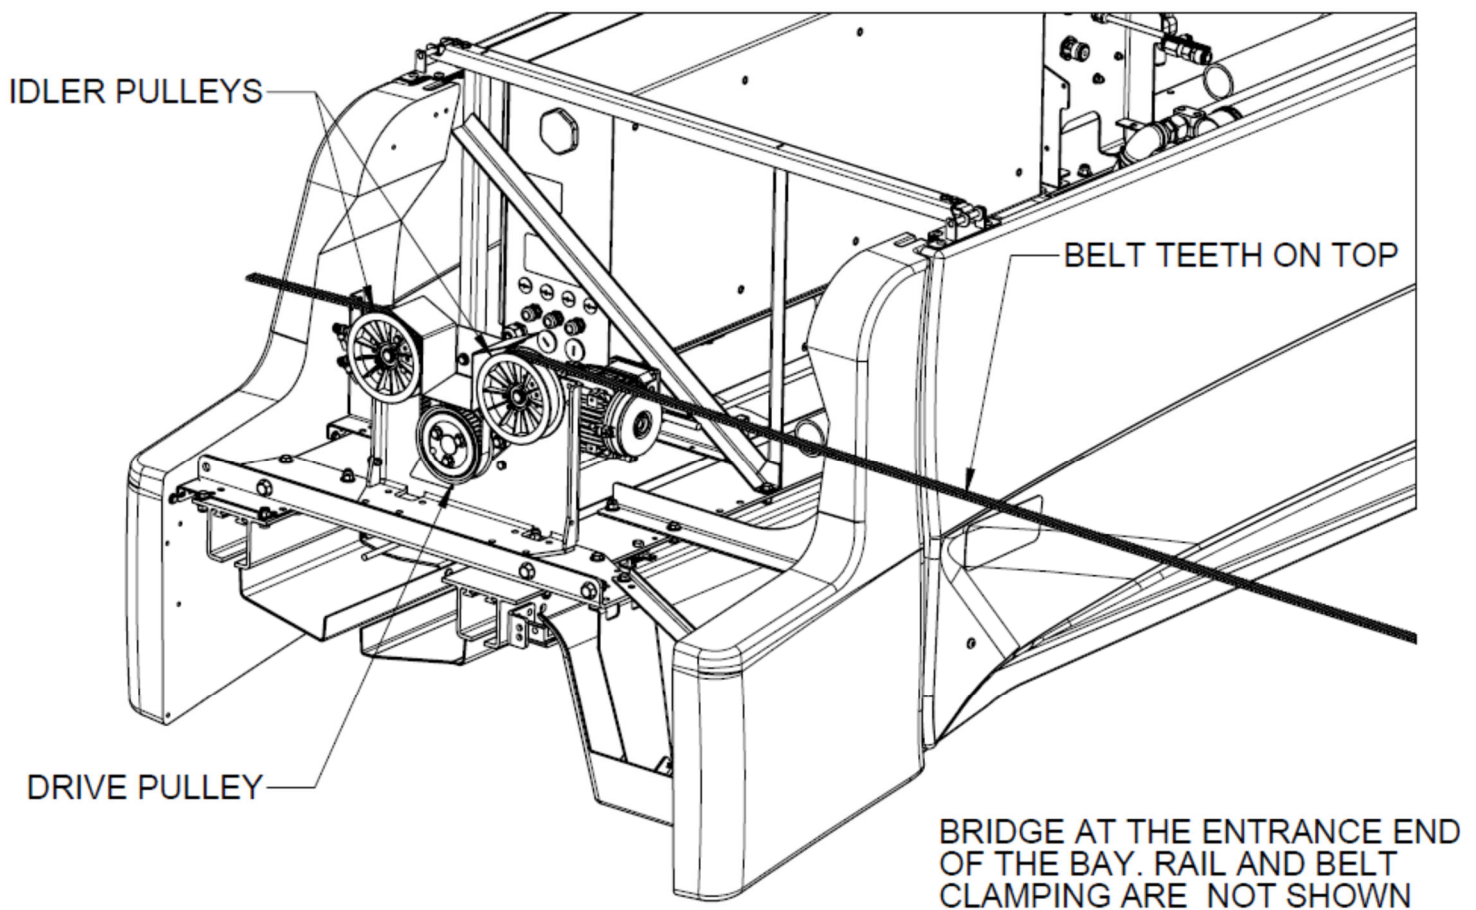
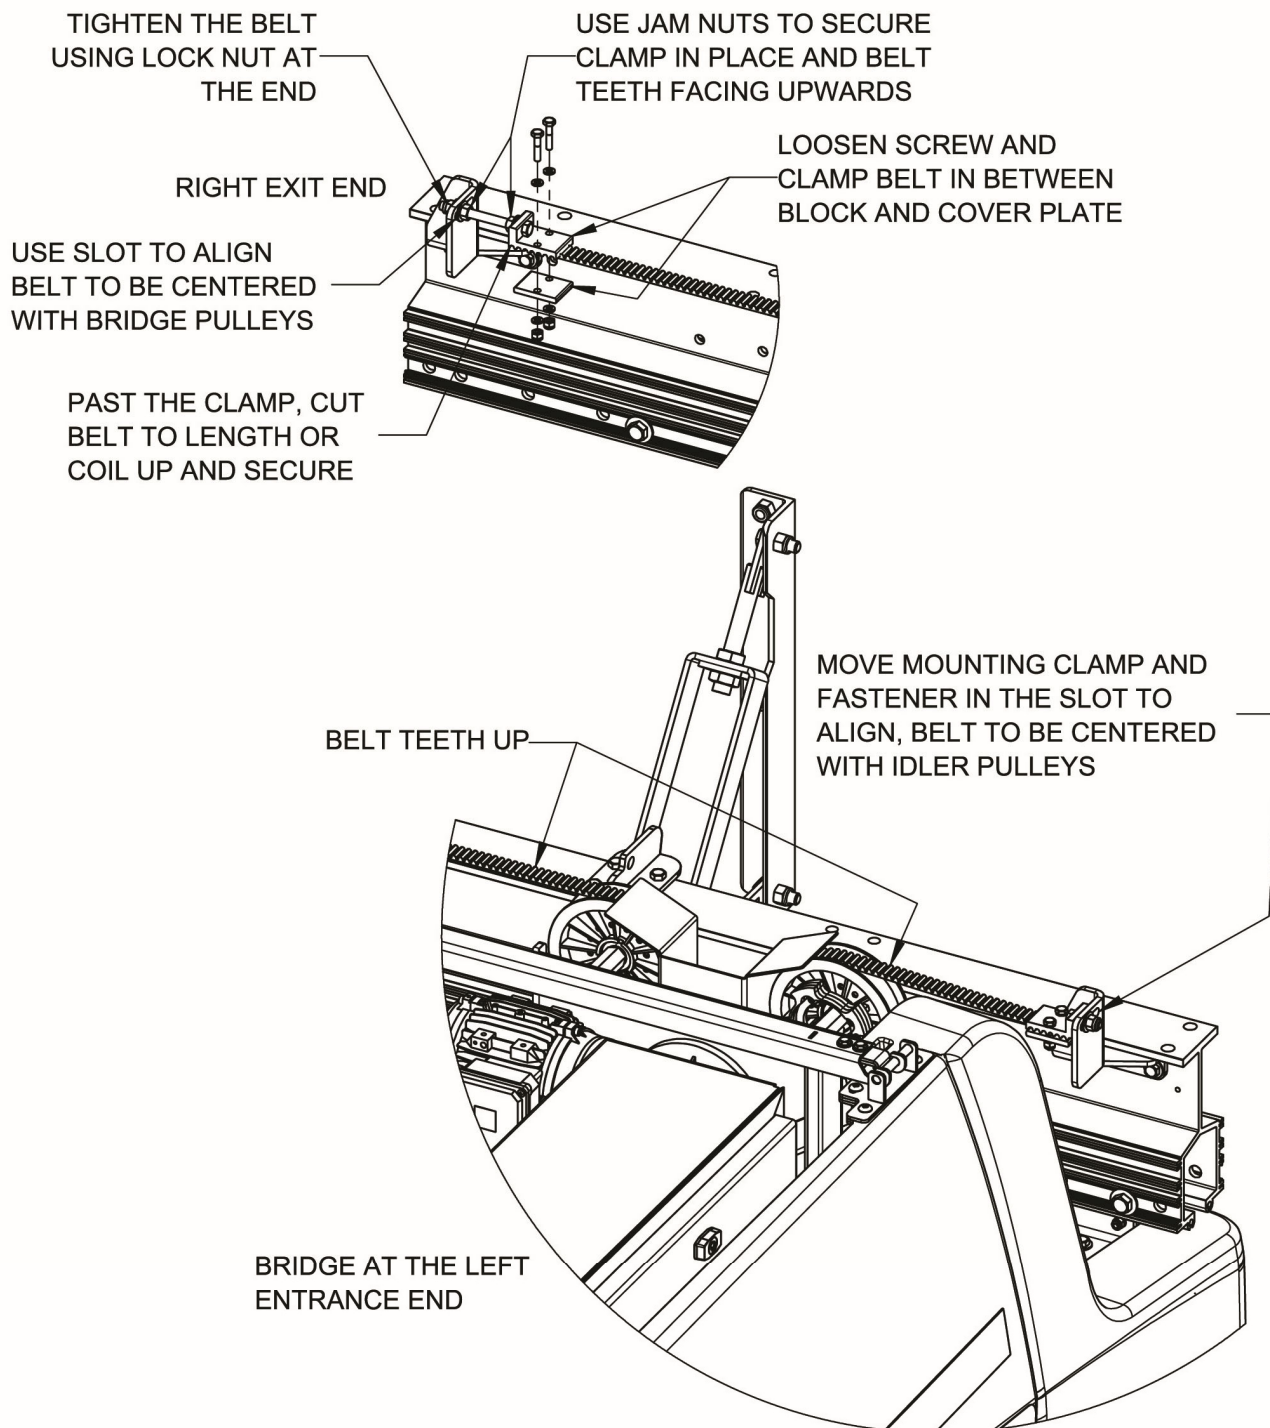

Figure 87 – Bridge Drive Belt Routing
Figure 88 - Connect and Align Bridge Drive Belt at Both Ends
Manually move the bridge to the entrance end of the wash bay. Route the belt through the drive and idler pulleys as shown in Figure 87 and Figure 88.
- Attach one end of the belt to the clamp assembly at the entrance end of the main rail. Make sure the maximum number (five) teeth of the belt are engaged in the belt clamp and tighten the belt in the clamp (see Figure 88).
- Continue to wrap the belt around the drive pulley with the teeth fully engaged. Wrap the belt around the second idler pulley as shown in Figure 87.
- Extend the belt to the exit end of the rail, pull it tight, and clamp it in the second belt clamp assembly with the maximum number (five) teeth engaged (see Figure 88).